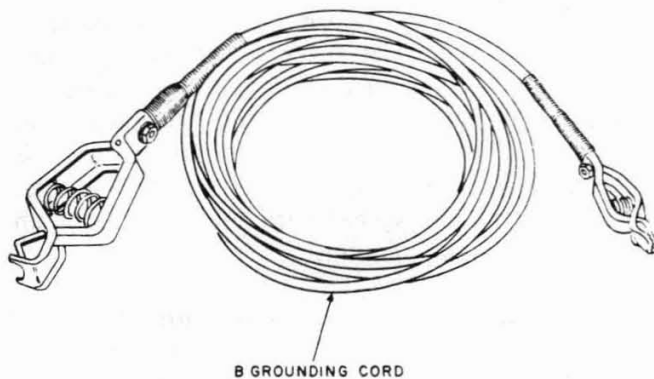
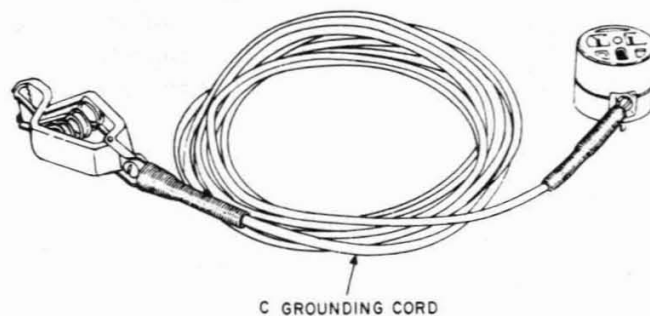

Fig. 4—B Grounding Cord
Fig. 5—C Grounding Cord
**3.04** When it is not possible to obtain a ground source at the convenience outlet, either the B (Fig. 4) or C (Fig. 5) grounding cords or a length of grounding wire (14-gauge) may be used.
- (a) The B grounding cord (Fig. 4) is a 15-foot, 18-gauge, single-conductor cord with clips at both ends.
- (b) The C grounding cord (Fig. 5) is identical to the B cord except that it has a clip on one end and a 3-conductor plug adapter on the other end.